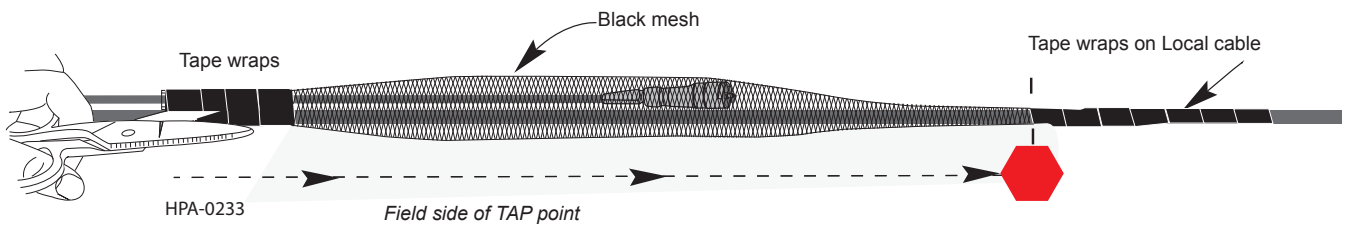

Figure 23
**Step 4:** Carefully use scissors to cut tape attaching the LCP/CO side of the black mesh to the tether and the local cable (Figure 23). Continue cutting down the side of the mesh until reaching where it is attached on the opposite end. Be careful not to damage the tether, the local cable or the connector during this process.